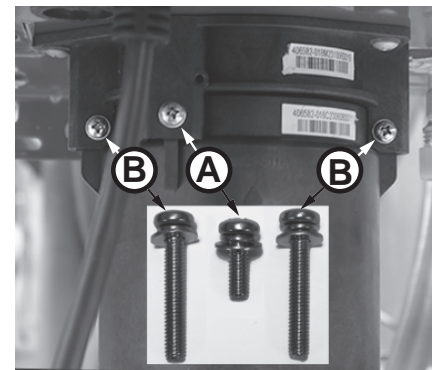

Figure 196 - Identify cartridge screws
5 Locate the three (3) screws securing the X3®/Bypass cartridge as shown in Figure 196. Remove the **(A)** M4-12mm screw and the two **(B)** M4-25mm screws from cartridge. Place screws aside in a safe place for reinstallation.